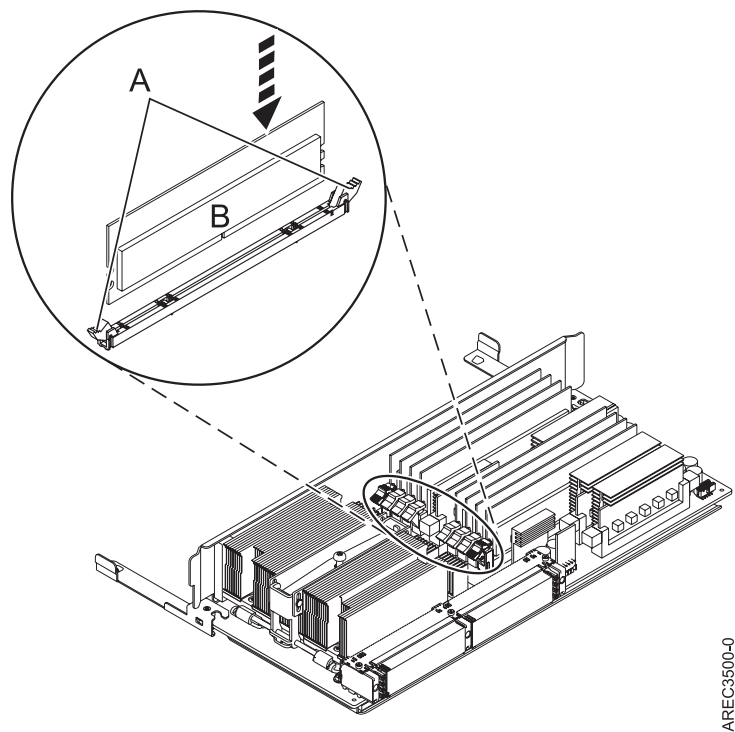

Figure 27. Replacing a memory module
10. Ensure that the connector is ready to receive the memory module. Remove the memory module filler, if one is present, by pushing the tabs (A) out and then down. The lever action of the tabs forces the memory module filler out of the connector.
12. Ensure that the connector locking tabs (A) are pushed out into the unlocked position, as shown in Figure 27 on page 41, before installing a new memory module.
13. Carefully grasp the memory module (B) along two edges and align it with the connector.